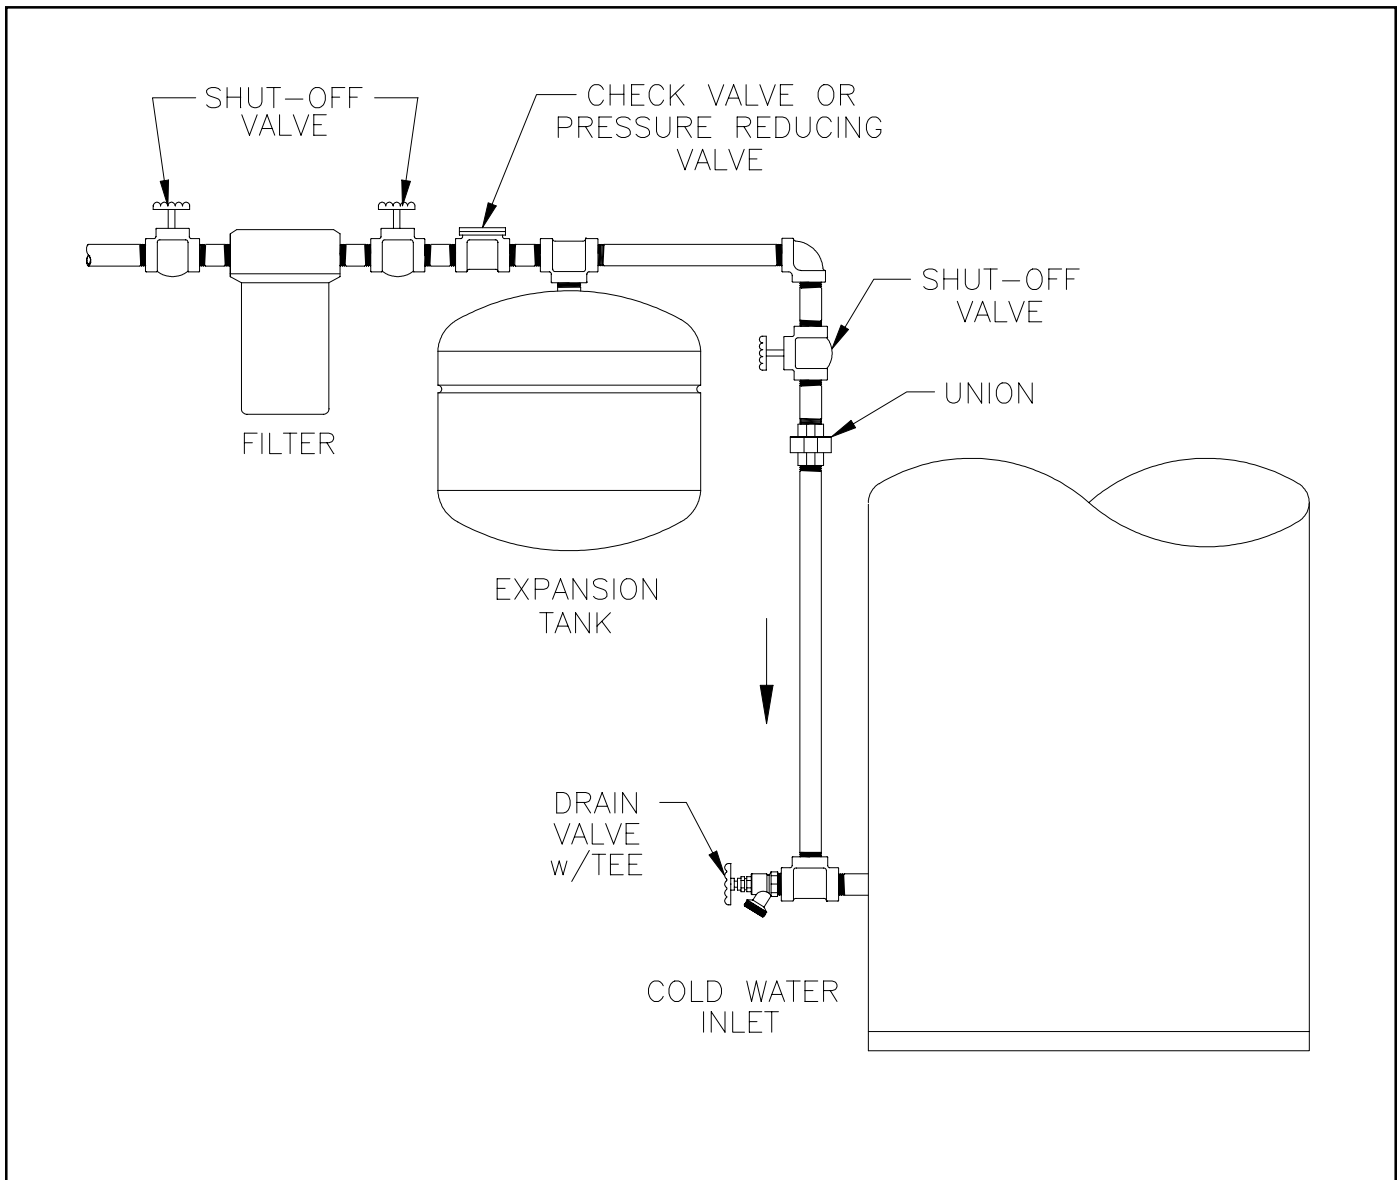

Figure 2: Cold Water Supply Piping
D. Connect cold water supply piping (see Figure 2).